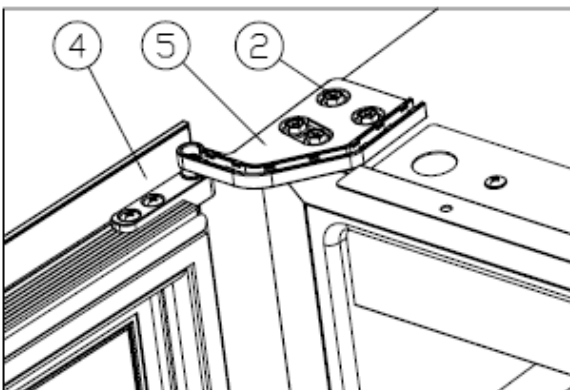

Figure 6
Turn the door (4) 180 degrees, and insert the right lower hinge (5), screw tight M5\*16 screws (2). [Figure 6]